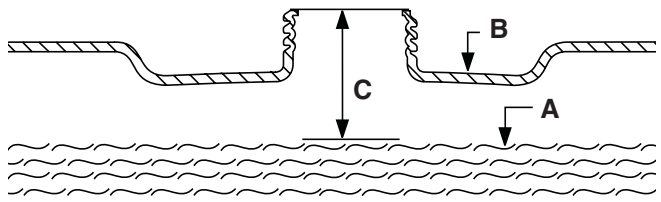

Figure 2 – Fuel Expansion
2. Slowly add unleaded gasoline (A) to fuel tank (B). Be careful not to overfill. Allow at least 1.5" (4 cm) of tank space (C) for fuel expansion, as shown in Figure 2.